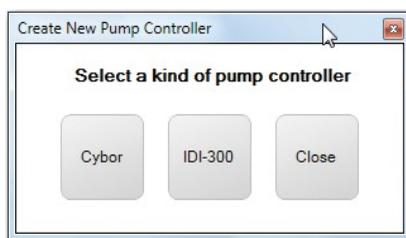

FIGURE 4-5: Select a pump controller type
1. On the Pump settings page, click **New Controllers**. The Create New Pump Controller dialog box opens. See Figure 4-5.